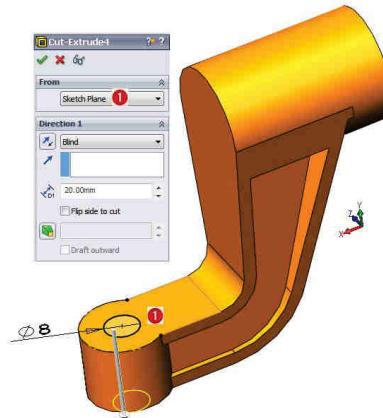

Fig. 2.8
**11 Trasare cerc decupare  $\phi 8$ :** Comanda Sketch – Fig. 2.8 – plan ①.
**12 Extrudare cerc decupare  $\phi 8$ :** comanda Extruded Cut – Fig. 2.8 - Blind /  $\Delta_{D1}$  20 mm distanță /  $\checkmark$ .
**11 Sketching of the  $\phi 8$  cut circle:** The Sketch command – Fig. 2.8 – plane ①.
**12 Extrusion of the  $\phi 8$  cut circle:** the Extruded Cut command - Fig. 2.8 – Blind /  $\Delta_{D1}$  20 mm distance /  $\checkmark$ .